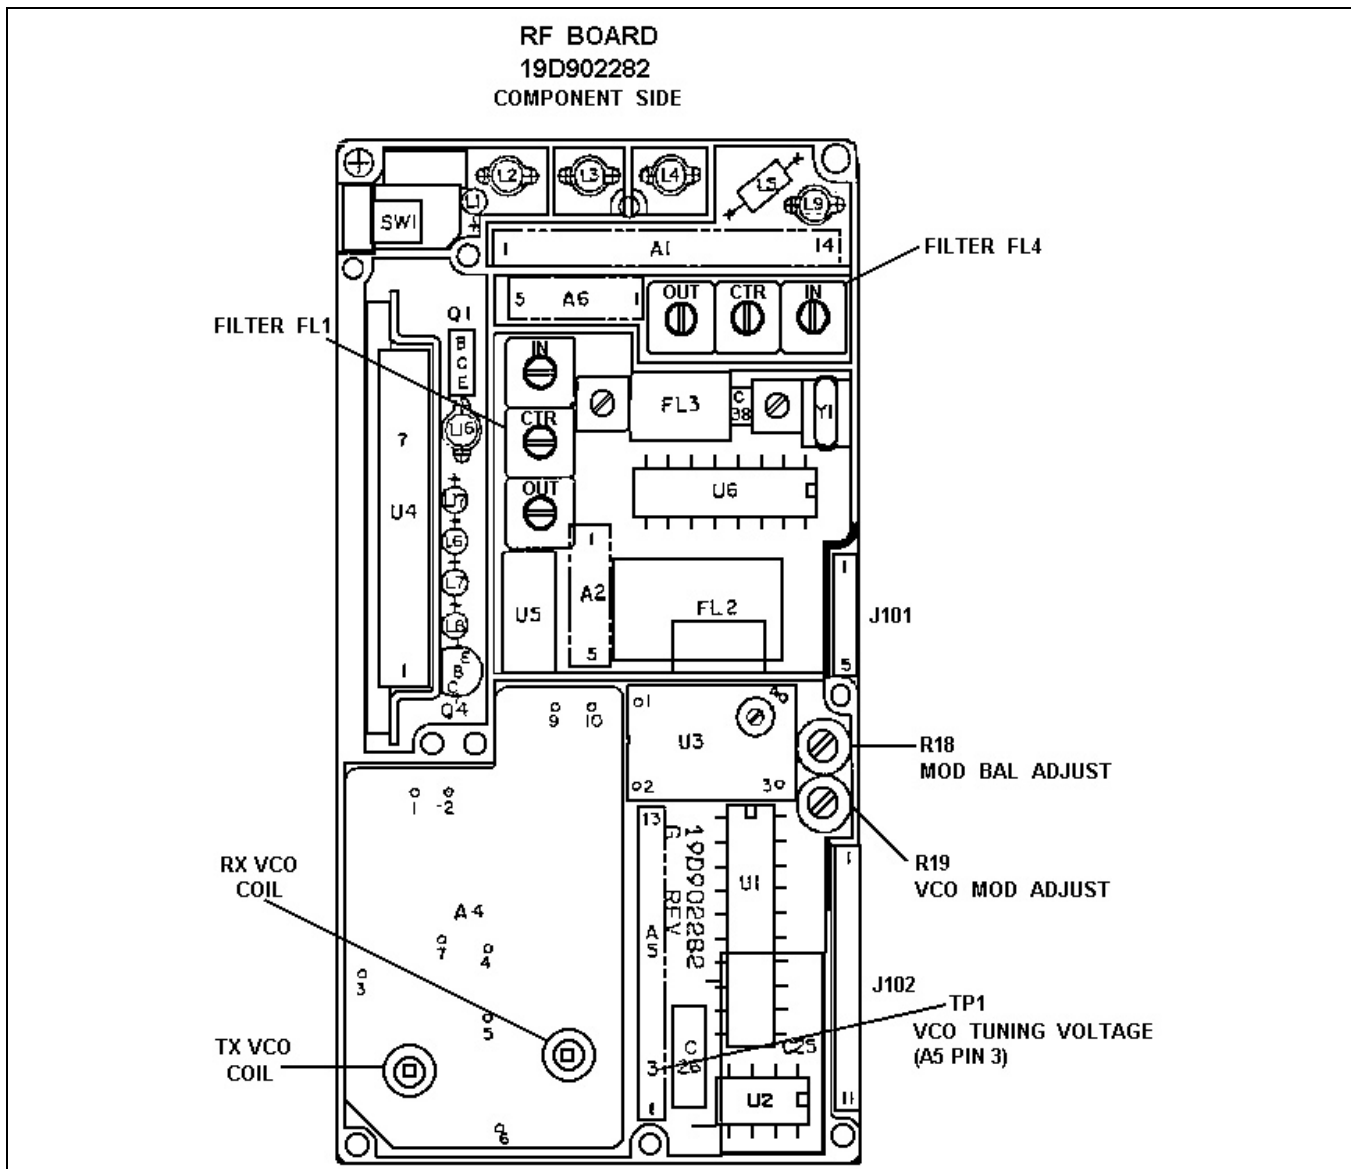

Figure 10 - RF Board Retuning Areas
1. Set the radio to the middle retune channel. Monitor the VCO tuning voltage at TP1 (A5 pin 3) with a dc voltmeter. Adjust the RX VCO coil should be for a reading of 2.5 Vdc. See Figure 10.